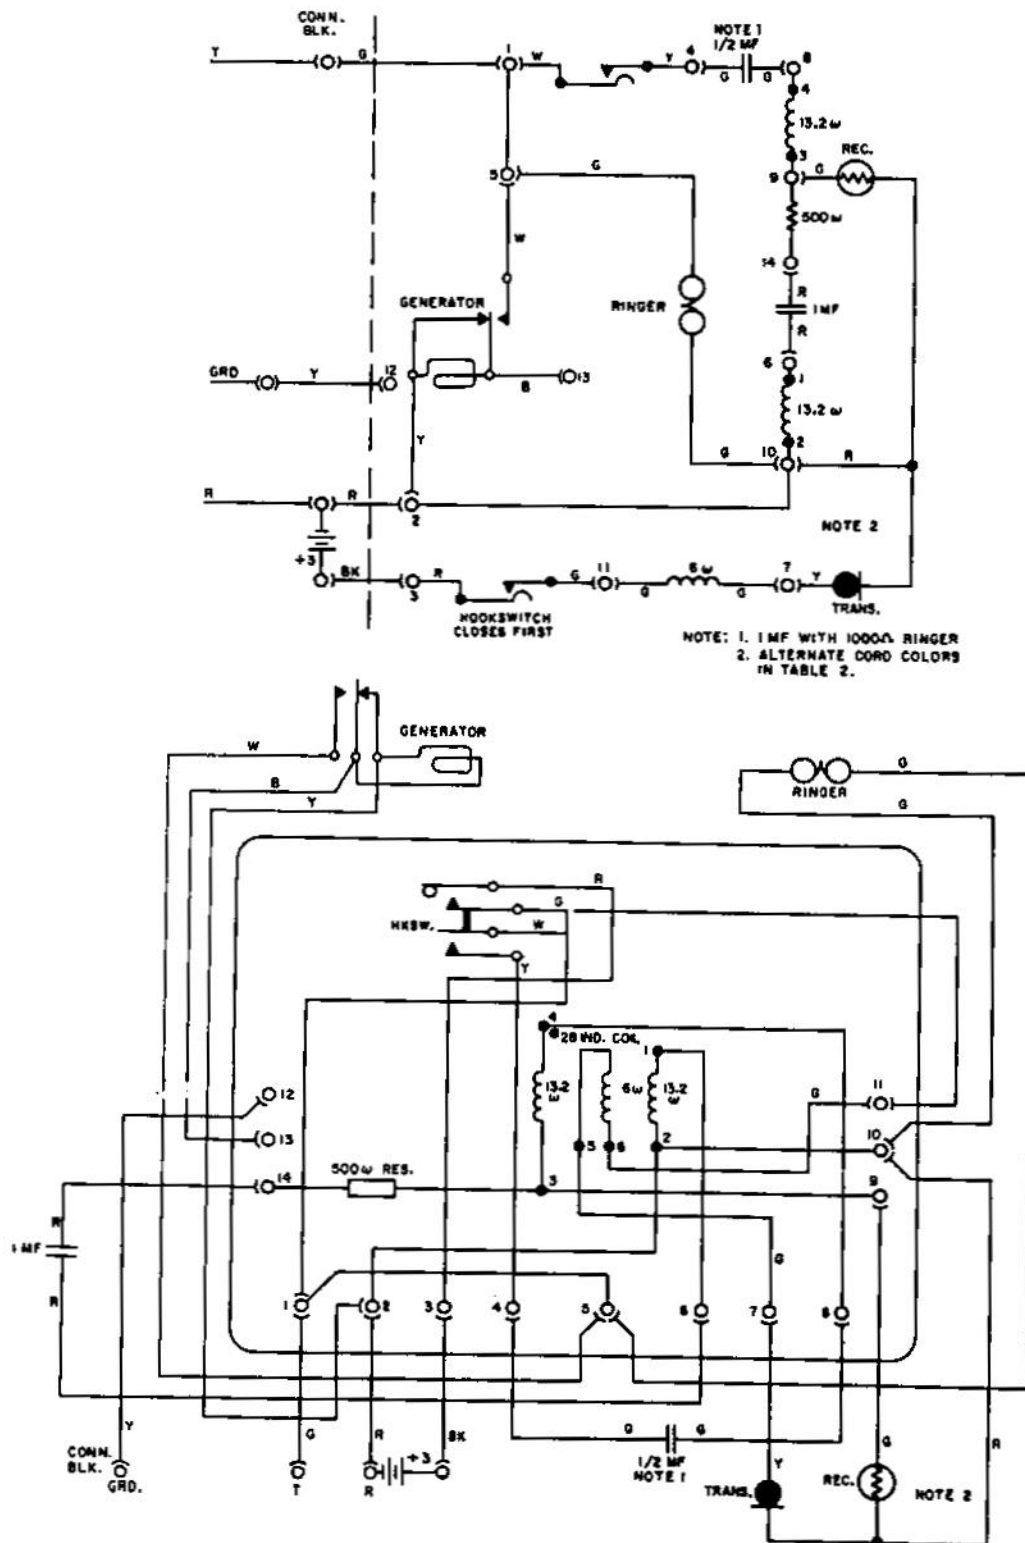

Figure 3. Schematic and Wiring Diagram, Code 901 Telephone Set.
2.05 Instruments from early production were equipped with fabric-covered line and handset cords, but later sets used neoprene cordage and offered a retractile handset cord as an option. PVC jacketing and retractile cord are now standard. Figures 3 through 9 show the conductor color assignment for the majority of sets in use; see Table 2 for exceptions covering certain retractile cords. Strain relief at the set end is by means of an S-hook on both line and handset cords, as well as at the block end of the line cord. The 39-M connecting block originally supplied with the set (see Figure 1) had provision for fastening this hook beneath a mounting screw. The Type 14 connecting block presently supplied has no provision for S-hook retention; for installation, use a 39-M or 42A connecting block recovered from prior service.
3.06 In private-line applications the stations are sometimes arranged for grounded ringing. In this case, move that green ringer lead which is normally connected at terminal 10 to terminal 12. If the generator of a non-suffix Code 901 or 911 set (see Figures 3 and 4) is also to be